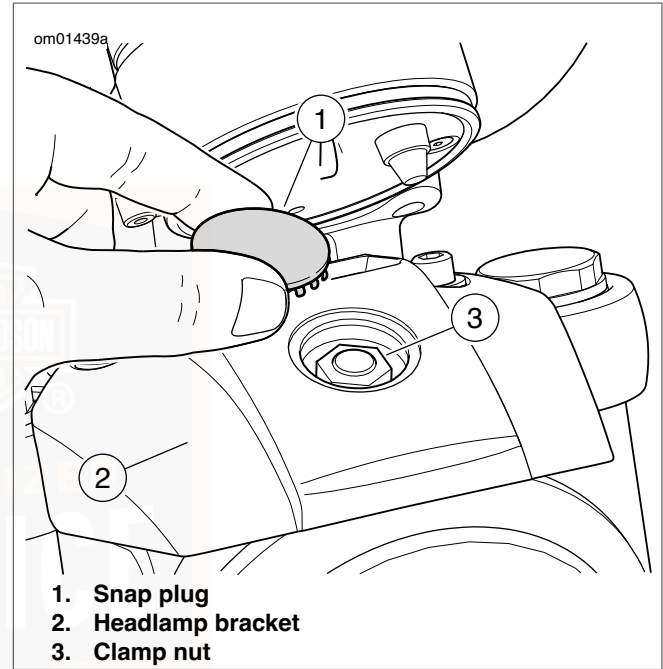

Figure 64. Headlamp Adjustment: XL883L, XL883N, XL1200T
1. See Figure 64. Remove snap plug (1) on top of headlamp bracket (2).
2. Loosen headlamp clamp nut (3).